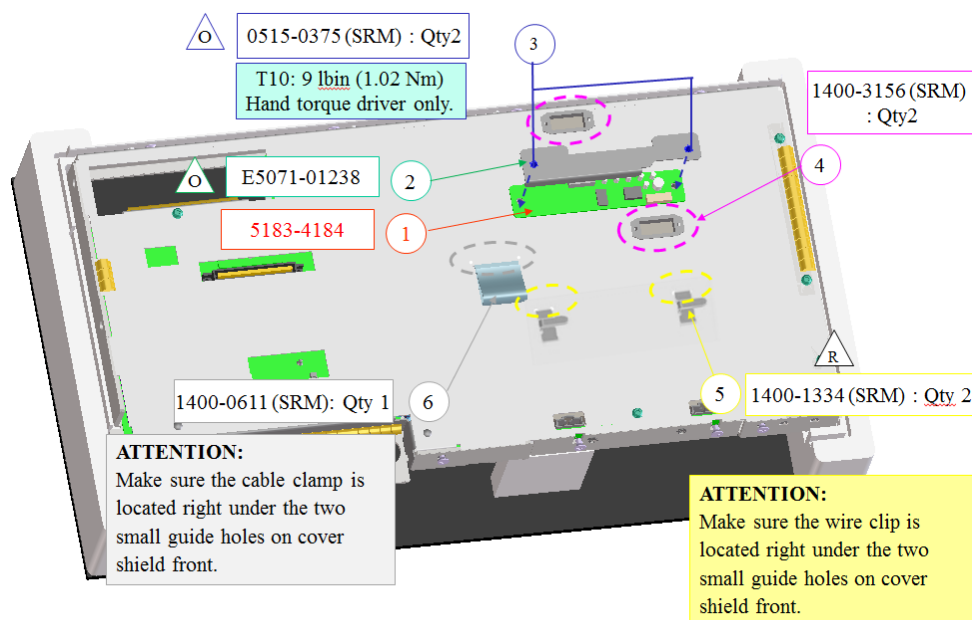

Figure 1-10
9. On Front Panel assembly shield (back cover), install the touch panel controller and the required cable clamps and gasket. Refer to figure 1-10, 1-11 for details.